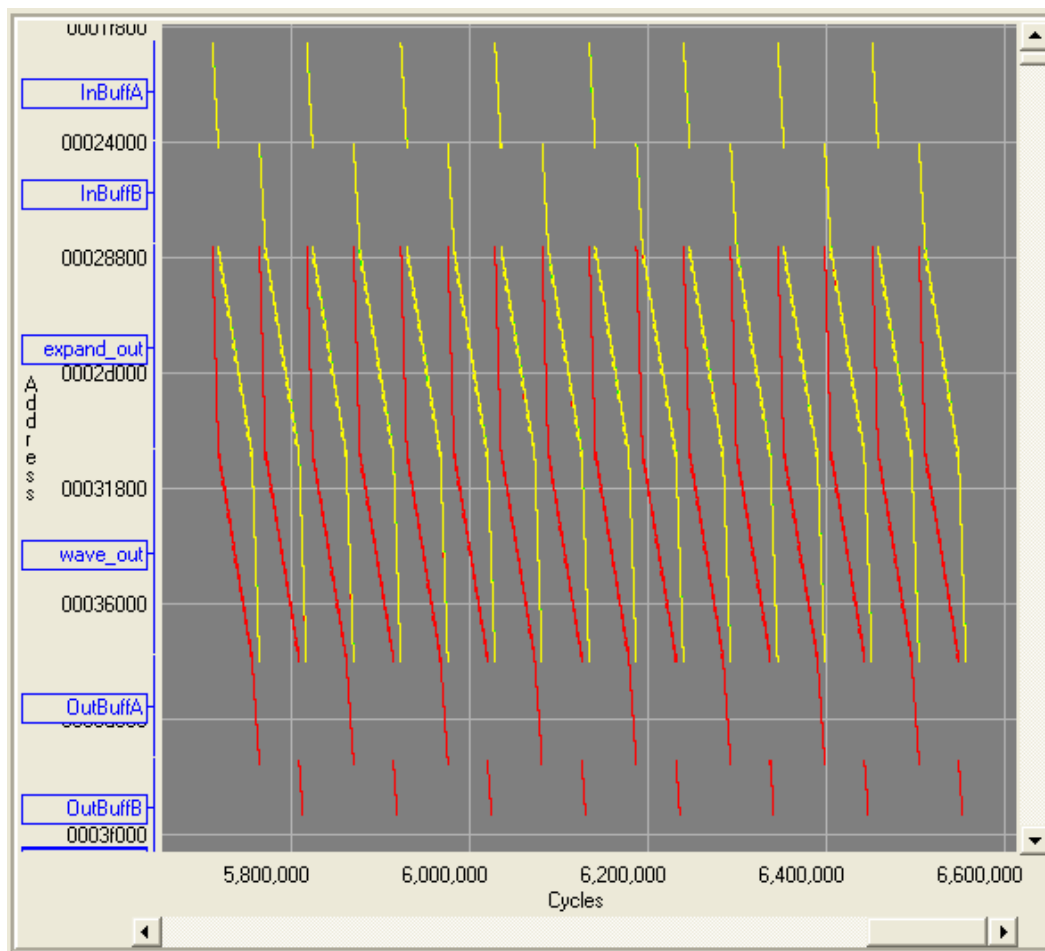

Figure 18. Data Cache Accesses After Using EDMA
4. From the Mark Symbol drop down menu, select <<All Symbols>> to display all the symbols. The image should resemble Figure 18.
As may be observed from Figure 18, similar linear processing chain access patterns were repeated 16 times (16 EDMA transfers). Read misses and write misses occur when accessing the data, causing L1D stalls as well as write-buffer-full stalls. Data buffers `expand_out` and `wave_out` are both 32K bytes in size, and are larger than the cache size 16K bytes. After each iteration, the beginning of the data buffer has already been replaced with the end of the data buffer as the capacity is insufficient. The following iteration will then experience misses again.